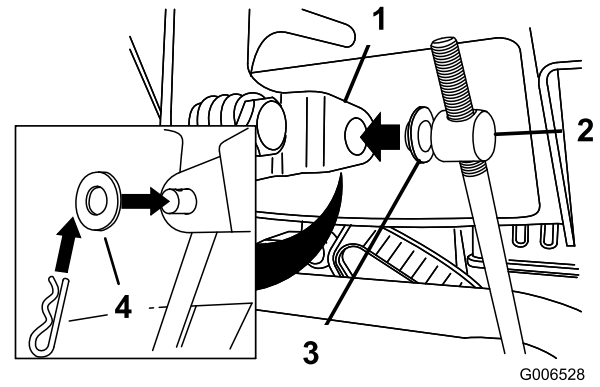

Figure 6
Note: To make installation easier, leave the inner washer on the trunnion (Figure 6).
- Lift up on the speed control rod and insert the trunnion into the hole in the speed selector lever (Figure 6).
- B. Disconnect the trunnion from the speed selector lever (Figure 6).
- C. Turn the trunnion downward (clockwise) on the speed control rod (Figure 6).
- D. Connect the trunnion from the speed selector lever (Figure 6).
- C. Turn the trunnion upward (counterclockwise) on the speed control rod (Figure 6).